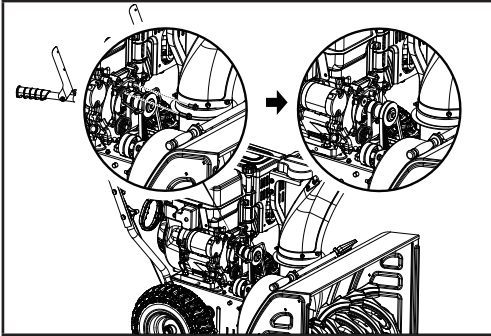

Figure 36
- Remove the 2 bolts (20 mm/30 mm) holding the belt guard (Fig. 36). Note the spring is loose at this point.